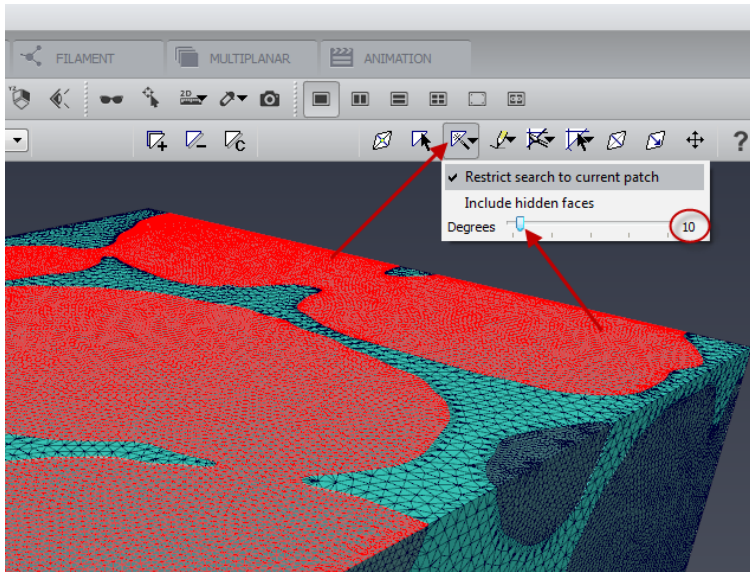

Figure 7.31: Using the *Magic Wand* to select a patch of coplanar triangles.
- Set the *Degrees* parameter to a value small enough, such as 10 (see Figure 7.31).